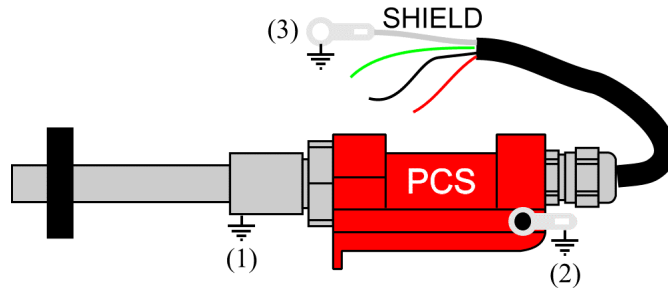

figure 12: grounding.
Figure 12 shows how to ground the transducer. This connection must be done with a conductor connected to a tag (2) of the shortest possible length and section (accordingly to Regulations).